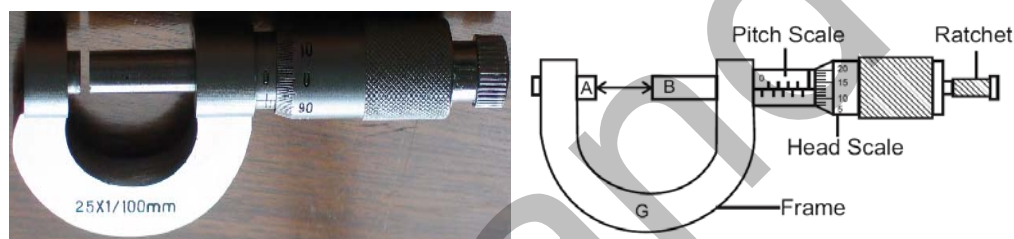

Fig.1
**Theory - Screw Gauge-** It is an instrument designed to have a least count .01 mm or even smaller. It is used to measure the thickness of very thin objects such as a thin sheet, a wire or a hair etc. It is based upon the principle of a screw. It consists of a U-shaped frame, which has a fixed end at A. A fine and an accurate cut screw of uniform pitch passes through the other end of the frame. A cap fits on to the screw and carries on its inner edge 100 or 50 equal division marks. This is called the circular/head scale (CS/HS). There is another linear scale graduated on the parallel to the axis of the screw. This is called main/pitch scale (S). When the screw is rotated, the number of complete rotations can be read on the pitch scale, while the fraction of rotation can be read from the circular scale. In some screw gauges, the screw head is provided with a ratchet arrangement R. (See Fig.1). When the studs A and B are in contact with each other or with some other object placed in between, the ratchet slips over the screw without moving the screw forward. This helps in avoiding undue pressure between the studs or on the object for accurate measurements.